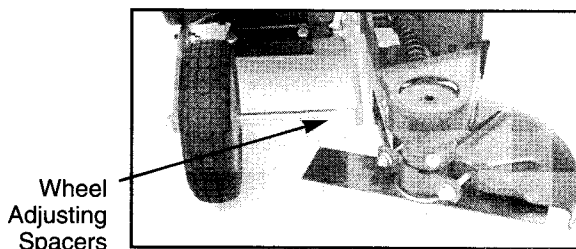

Fig. 7
1. The wheel adjusting spacer should be centered between the wheel and right hand frame when edging in the vertical position. The wheel must be placed against the right hand frame when edging with the cutterhead in the angle or horizontal position. (See Fig. 7)